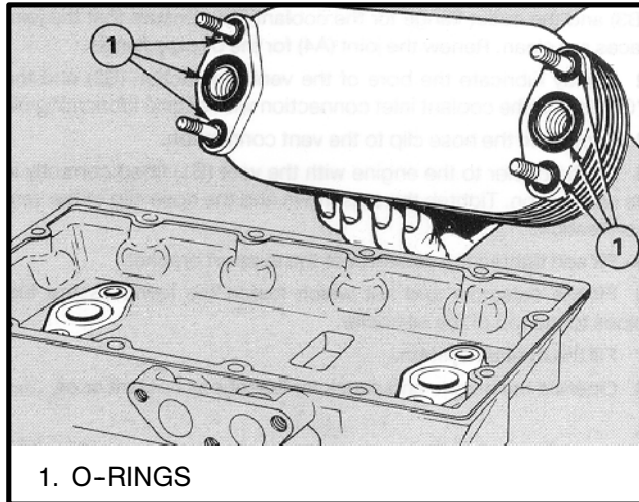

FIGURE 159. JOINTS FOR THE COOLER ELEMENT
4. Use new O-rings on the flanges and studs as shown in FIGURE 159.